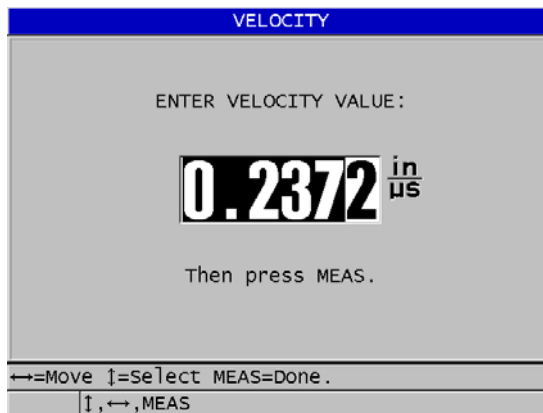

Figure 5-7 Entering a known material sound velocity
2. In the **VELOCITY** screen (see Figure 5-7 on page 72), use the arrow keys to edit the velocity to the known value.